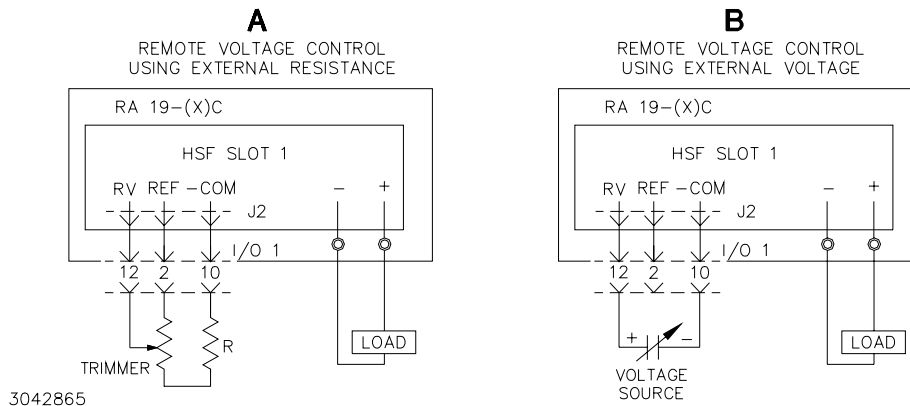

FIGURE 7. CONNECTIONS FOR REMOTE VOLTAGE CONTROL
For remote voltage control, set positions 1, 2 and 7 as shown in Figure 6B. This removes control from the front panel Vadj control and allows the output voltage to be adjusted by either an external trimmer pot (resistance) or by an external variable voltage source connected across the rack adapter I/O connector pin 12 (RV, Remote Voltage) and pin 10 (-COM, Common) as shown in Figure 7. At the rack adapter I/O connector use a shielded wire 6.6 feet (2M) maximum in length, for connection of REF (pin 2), RV (pin 12), and -COM (pin 10) to the trimmer control or external voltage source.
RESISTANCE: Connect the external trimmer as shown in Figure 7A. Suggested value for the trimmer control is 5K ohms. Referring to Figure 7 (A), R = 5.6K Ohms provides an output voltage adjustment range of from 70 to 130%. for the 24V model. R = 7.5K Ohms provides an output voltage adjustment range of from 70 to 115% for the 48V model.